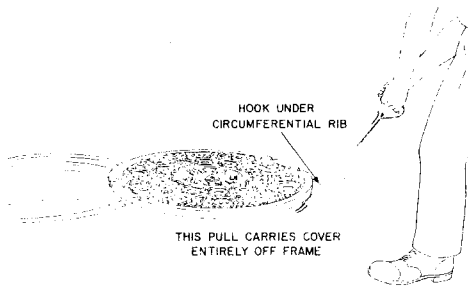

Fig. 11 - Sliding Cover Clear of Frame
(3) Slide the cover clear of the frame (Fig. 11).